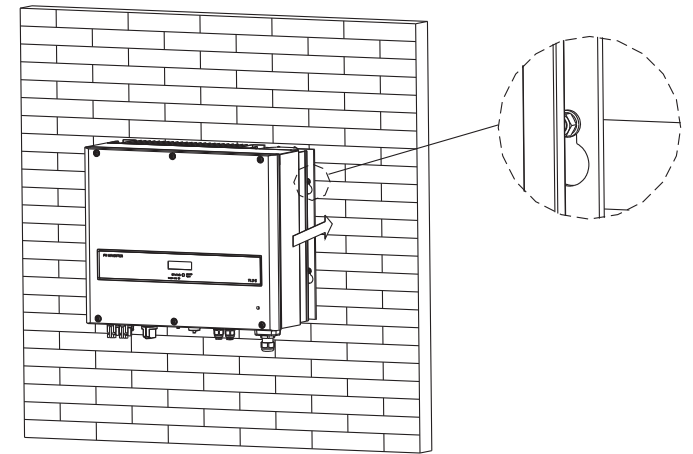

Fig5.5
- After confirming the inverter is stuck on expansion bolt, fasten four M6 screws. Refer to Fig 5.5.